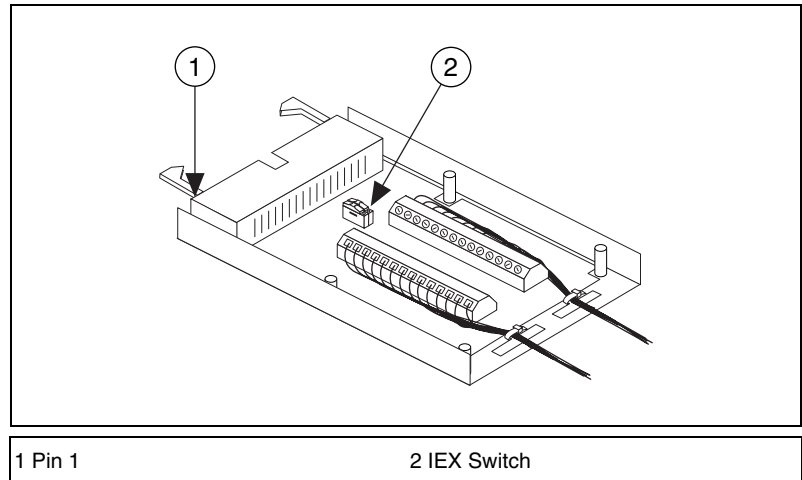
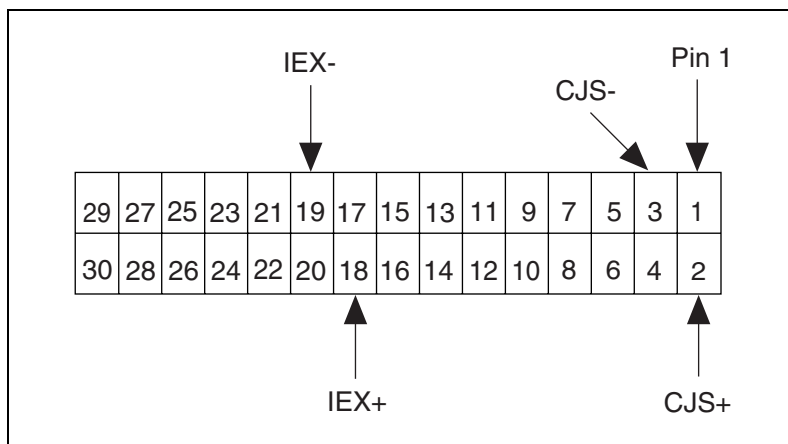

Figure 1. CB-27T IEX Switch
Figure 2. CB-27T Connector Block
1. Move the IEX switch to the OFF position. Figure 1 shows the location of the IEX switch.
- a. Hold the terminal block horizontally and view the connector so that pin 1 is in the upper-right corner. Figure 1 shows the location of pin 1 on the terminal block. Figure 2 shows the connector pin assignments.